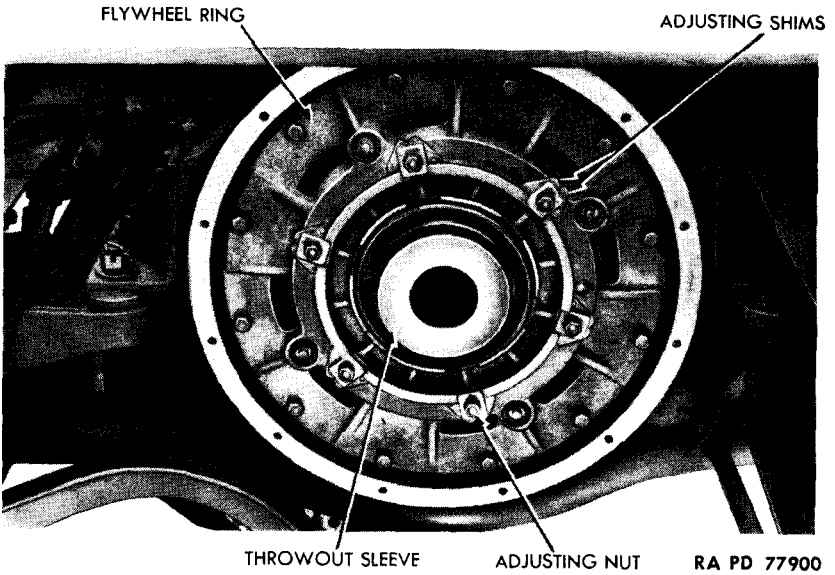

Figure 25 – Clutch Installed – Transmission Removed
a. Description (fig. 25). The clutch, located between the engine and transmission is the heavy-duty, single plate, dry-disk type. The clutch disk is positioned between the face of the engine flywheel and the clutch pressure plate assembly.
Remove blocking from disengaging lever, which will move clutch throw-out sleeve back away from shims. Remove shims as necessary to obtain $1\frac{1}{8}$ - to $1\frac{3}{16}$ -inch clearance between faces of clutch throw-out sleeve and flywheel ring (fig. 25). **NOTE:** Removing one shim from each pack will reduce clearance $\frac{7}{64}$ inch. To secure full contact between pressure plate and driven plate, always remove or install the same number of shims from each pack. Test contact of trunion fork